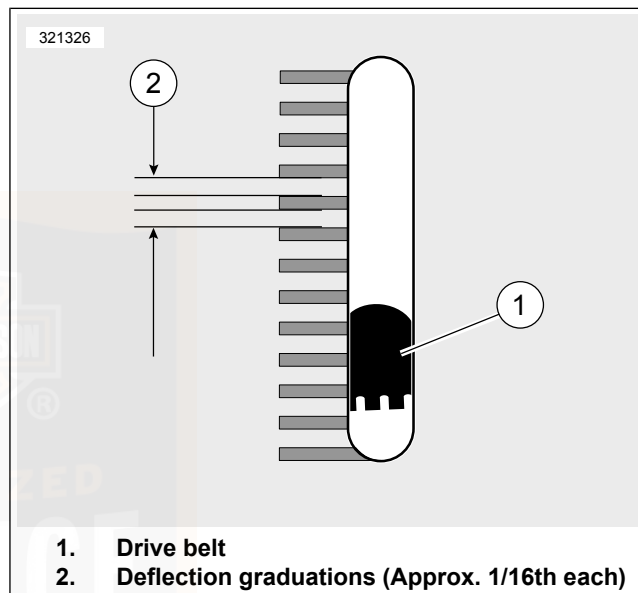

Figure 66. Belt Deflection Window
- a. Slide o-ring (4) to zero mark (3).
- b. Fit belt cradle (2) against bottom of drive belt in line with belt deflection window.
- c. Press upward on knob (6) until o-ring slides down to 10 lb (4.54 kg) mark (5) and hold steady.
3. See Figure 66. Measure belt deflection as viewed through belt deflection viewing window while holding gauge steady. Each deflection graduation is approximately 1.6 mm (1/16 in).